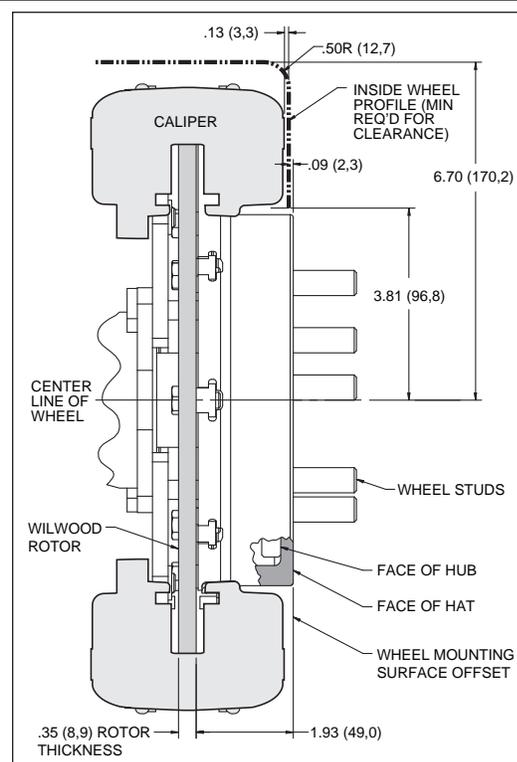

Figure 2. Wheel Clearance Diagram
- Review the Wheel Clearance Diagram (figure 2, page 3) to verify that there is adequate clearance with the wheels you will be using with the installation.
- Verify wheel clearance using Figure 2.